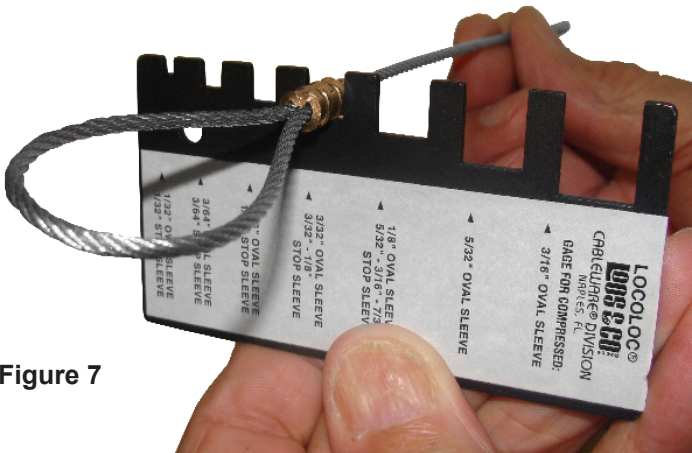

Figure 7
5. Check sleeve for proper after swage diameter with gauge provided (**Figure 7**). The clamping action of the ratchet allows the sleeve to be held by the tool before completing the swage. This allows for the user to adjust the position of the sleeve on the cable.